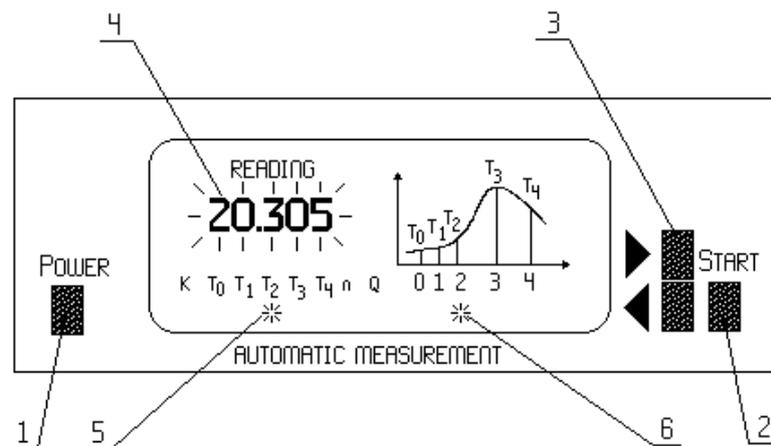

Fig.3
- 6 - power supply signal diode – calorimeter is turned on with the POWER switch (fig.3 pos.1)
Control desktop, containing the following elements (visible when the desktop is opened) (fig.3):
a series of diodes is placed, which indicate what kind of information is presented on display. To switch the type of information being displayed, use the buttons with a left or right arrow (fig.3 pos.3). The information on the calorimeter's status is provided by diodes, placed under the indicators of different cycles (0, 1, 2, 3, 4).
7. Turn the calorimeter on with the POWER switch (fig.3 pos.1), placed on the desktop.
9. Enable the automatic measurement cycle with the START button (fig.3 pos.2).
10. Turn off the calorimeter power supply with the POWER button (fig.3 pos.1).